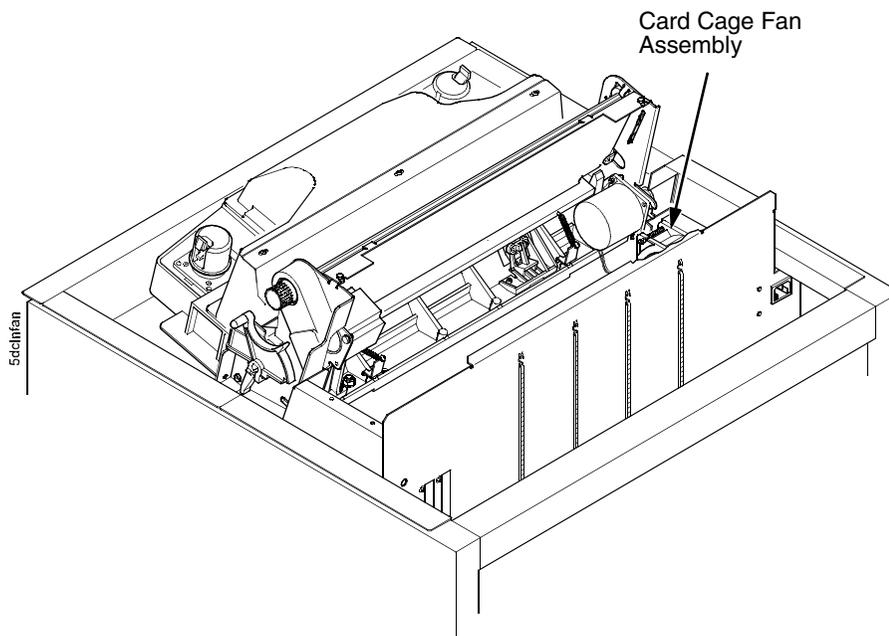

Figure 6. Cleaning the Card Cage Fan Assembly
2. Vacuum the card cage fan assembly and surrounding areas to remove paper particles, dust, and lint. (See Figure 6.)